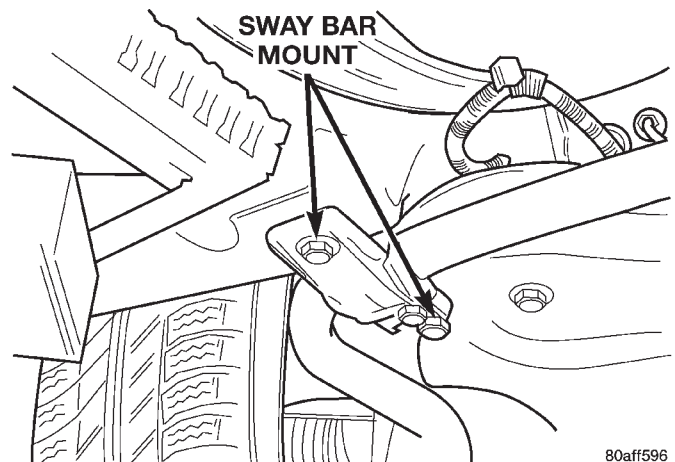

Fig. 62 Sway Bar Mounts
- (28) Remove sway bar mounts (Fig. 62).